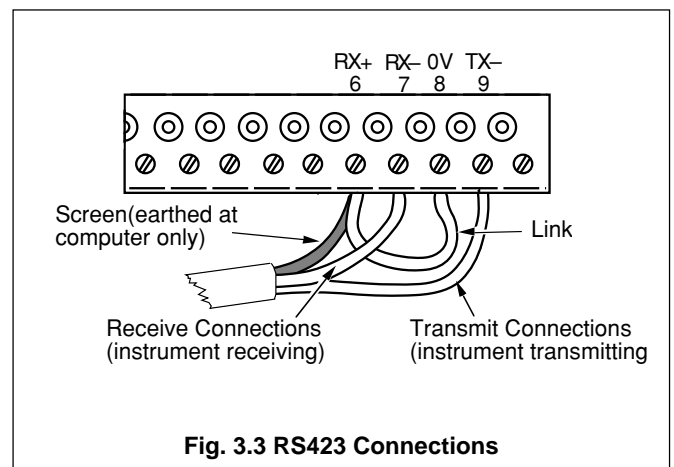

Fig. 3.3 RS423 Connections
3.2 RS423 Connections – Fig. 3.3
In the RS423 mode, only one EIL8230 series of microprocessor-based ion-selective electrode monitor can be connected to the host computer. Make serial data connections as shown in Fig. 3.3. Use two-core screened cable consisting of a twisted pair with an overall screen, of maximum length 600m.